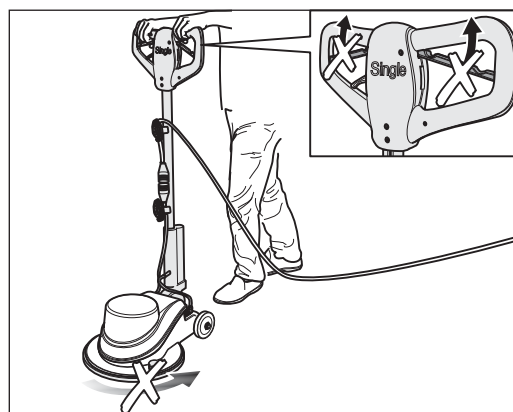

Fig. 11 If the guide tube is in a vertical position, the machine CANNOT be switched on!
- If the guide tube is in a VERTICAL POSITION, since this makes the machine very difficult to control (Fig. 11).